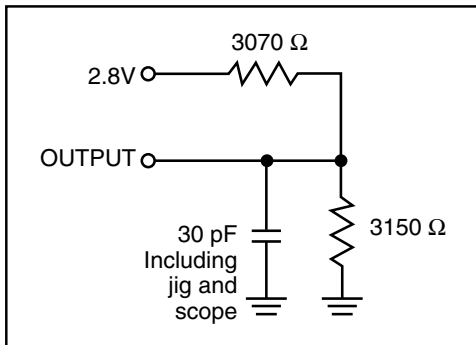

Figure 1
Output Load	See Figures 1 and 2
1. Test conditions assume signal transition times of 5 ns or less, timing reference levels of 1.5V, input pulse levels of 0.4 to 2.2V and output loading specified in Figure 1.
1. Test conditions assume signal transition times of 5 ns or less, timing reference levels of 1.5V, input pulse levels of 0.4V to 2.2V and output loading specified in Figure 1.